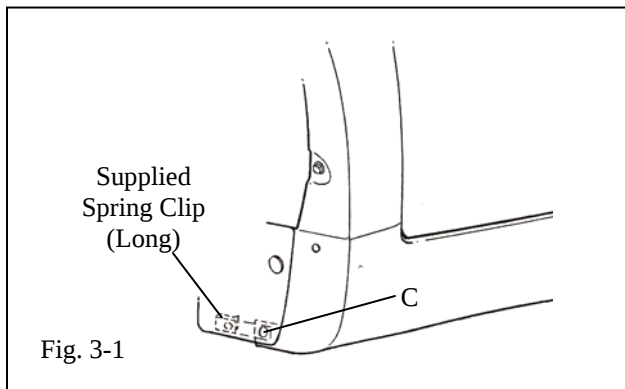

Fig. 3-1
- (a) Pull liner out and install spring clip (long) over panel edge hole location C with turned up edge on inside of panel (Fig. 3-1)